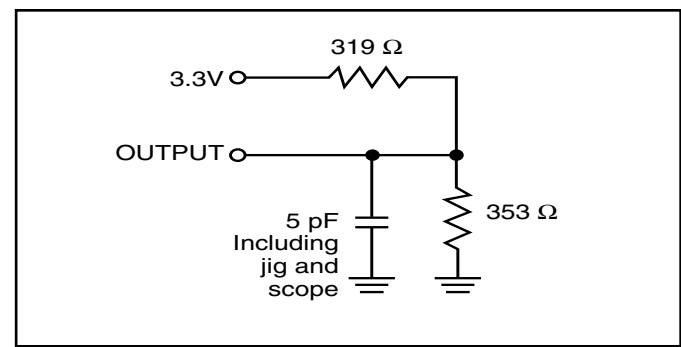

Figure 2.
2. Tested with the load in Figure 2. Transition is measured ±500 mV from steady-state voltage.
2. Tested with the load in Figure 2. Transition is measured ± 500 mV from steady-state voltage. Not 100% tested.